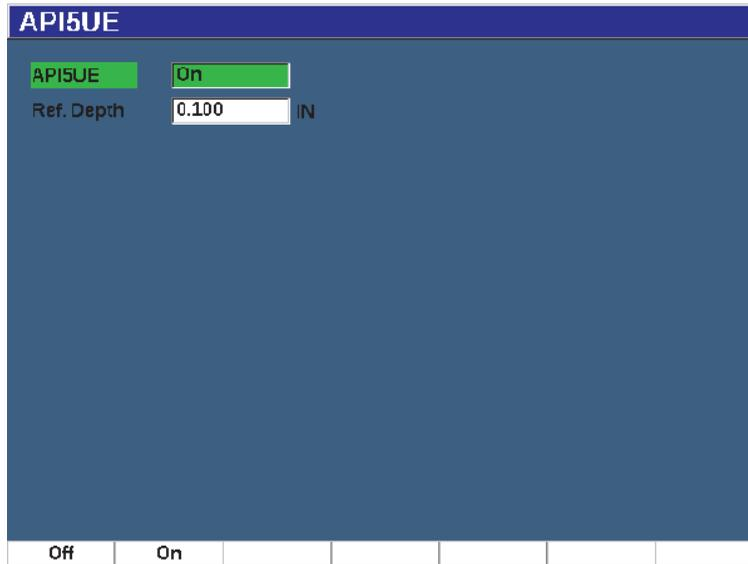

Figure 11-22 Waveform averaging option setup
2. In the **API5UE** menu, select **API5UE = On** (see Figure 11-22 on page 257).